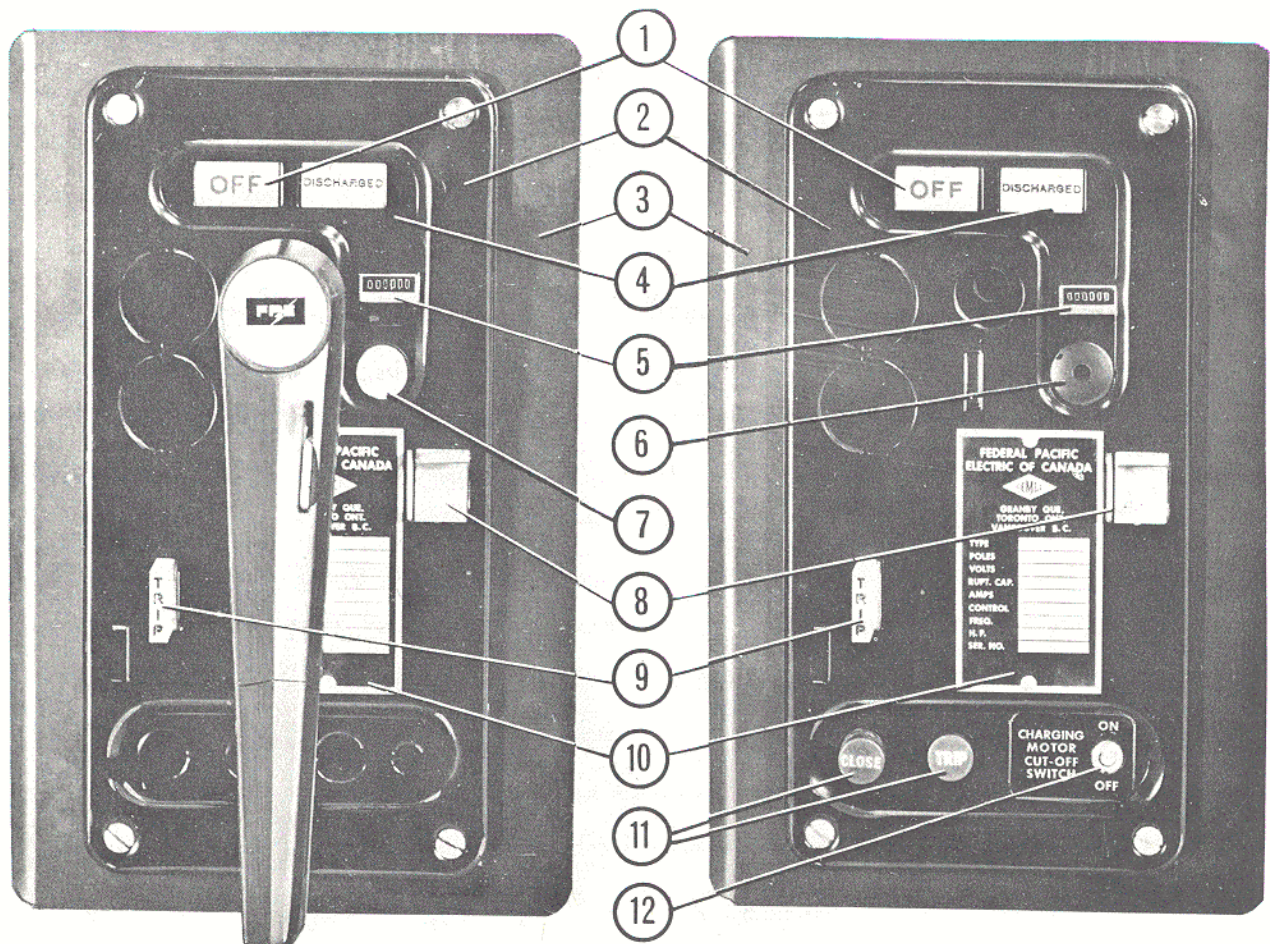

Figure 1 — CIRCUIT BREAKER FACEPLATES
4. On drawout breakers, check the drawout interlock. The gate must be fully up to cover the opening for the drawout crank. See fig. 1.
A universal ac/dc 120 volt 1/4 H.P. motor is used to wind the spring closing mechanism and a shunt close releases the stored energy to close the breaker. Upon supplying control power with the breaker open, the motor will automatically charge the spring (time 2-4 seconds). Pressing a close button either on the face plate or at a remote location will then close the breaker. When the breaker is tripped the motor will immediately rewind the mechanism to charge the spring ready for the next close operation. An emergency closing handle is supplied which can be used in the event of control power failure. The handle is inserted into the faceplate connection and is used in the same manner as for manual closing to store the energy in the spring. To close the breaker insert the opposite end of the handle in the small hole to the lower right as illustrated, figure 1, page 5.